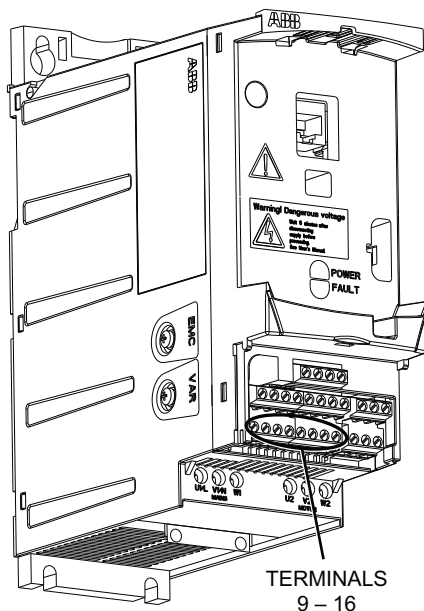

Fig. 36 — ACS320 Terminal Blocks
3. Disconnect the DI1 input at terminal 12. The terminals are numbered on the bottom of the block (see Fig. 36 for the location of terminal block that contains terminal 12).